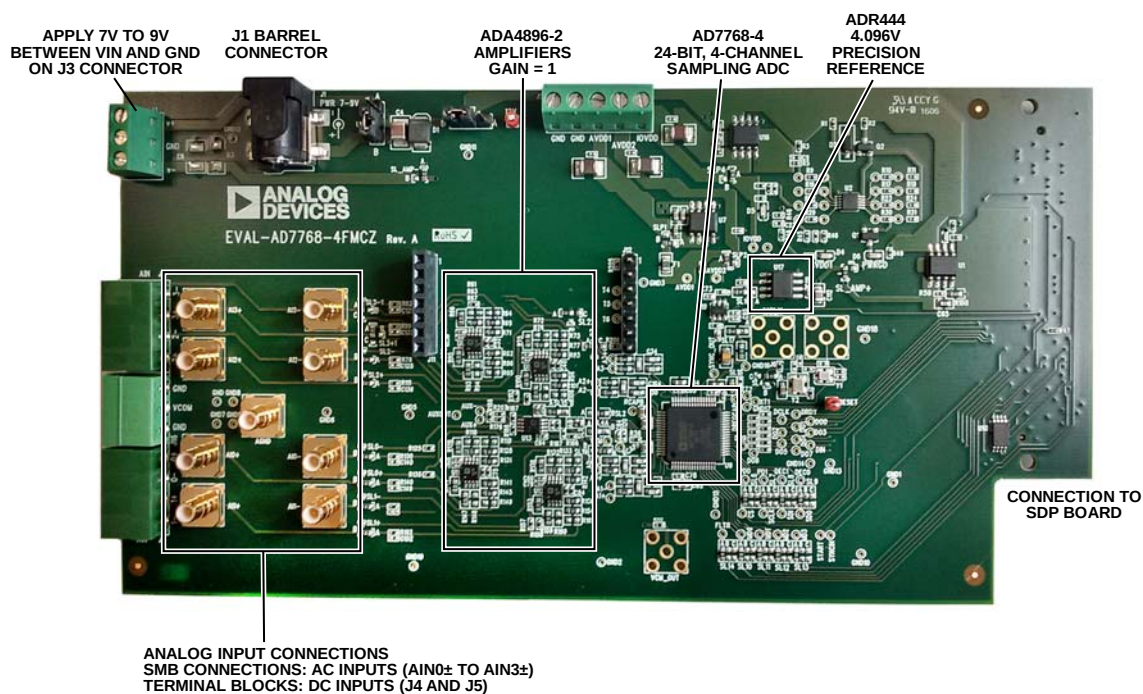

Figure 1. EVAL-AD7768-4FMCZ Evaluation Board
2. Connect the SDP-H1 board to the evaluation board (unpowered). Figure 1 illustrates the connection: J4 of the SDP-H1 board adapts to the receiving socket on the EVAL-AD7768-4FMCZ printed circuit board (PCB).